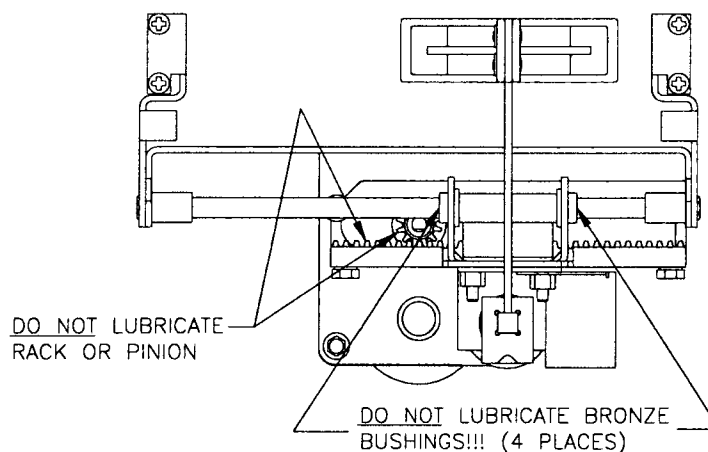

Fig. 9
- b. Do Not lubricate the four bronze bushing that are found on the sliding carriage of the kicker assembly. They are oil impregnated and will not need to be lubricated. If lubricated, contamination may occur and subsequently destroy the bushings. (See Fig. 9)
- c. Do Not lubricate the rack or the pinion gear. They are made of a plastic material that does not require any lubrication. If the rack or pinion are lubricated they may become contaminated and subsequently be destroyed resulting in the failure of the mechanism. (See Fig. 9)